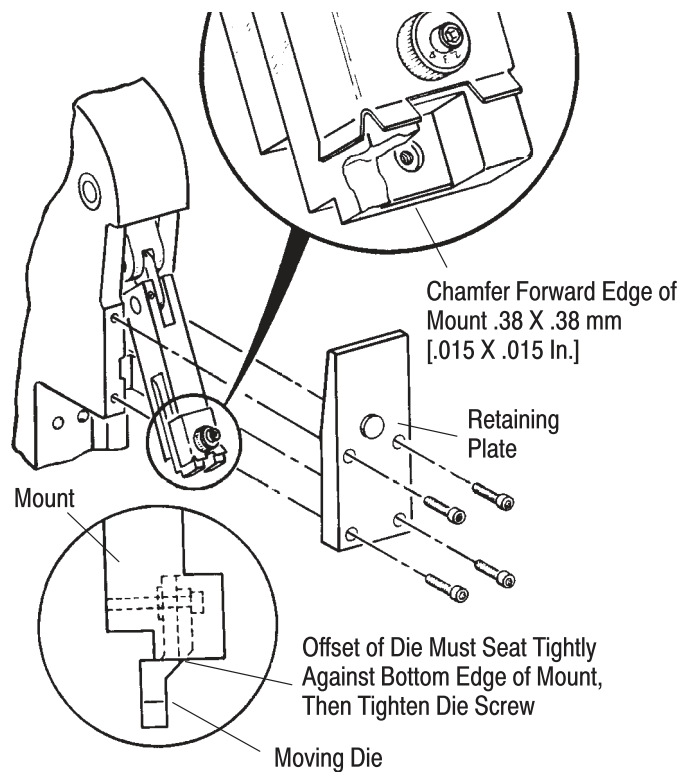

Figure 26
13. Remove the ram retaining plate by removing four screws. See Figure 26.
14. Remove the upper die by removing screw. Swing upper tooling mount forward to a convenient angle. File a chamfer on the lower edge of the mount, as shown in Figure 26, if one does not already exist. (The chamfer is necessary so that the offset of the upper die will seat tightly in the mount.)